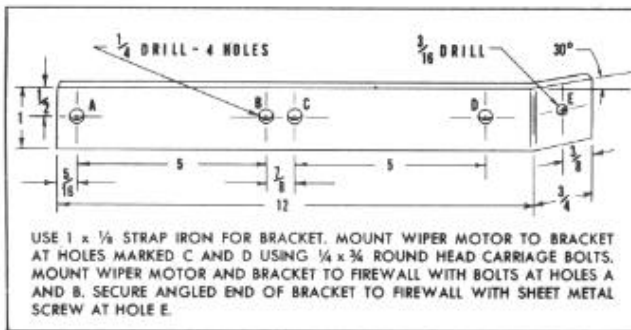

FIGURE 102
7. It is necessary on early 5B cars having the wiper motor mounted to the right of center location, to re-locate the windshield wiper motor to the left of center to allow clearance for the rear air cleaner. This is accomplished by fabrication of a mounting bracket as shown in Figure 102. It is also necessary to provide new right and left windshield wiper pulley housing and cable assemblies, Part Nos. 233500 and 233501, when this change is made.